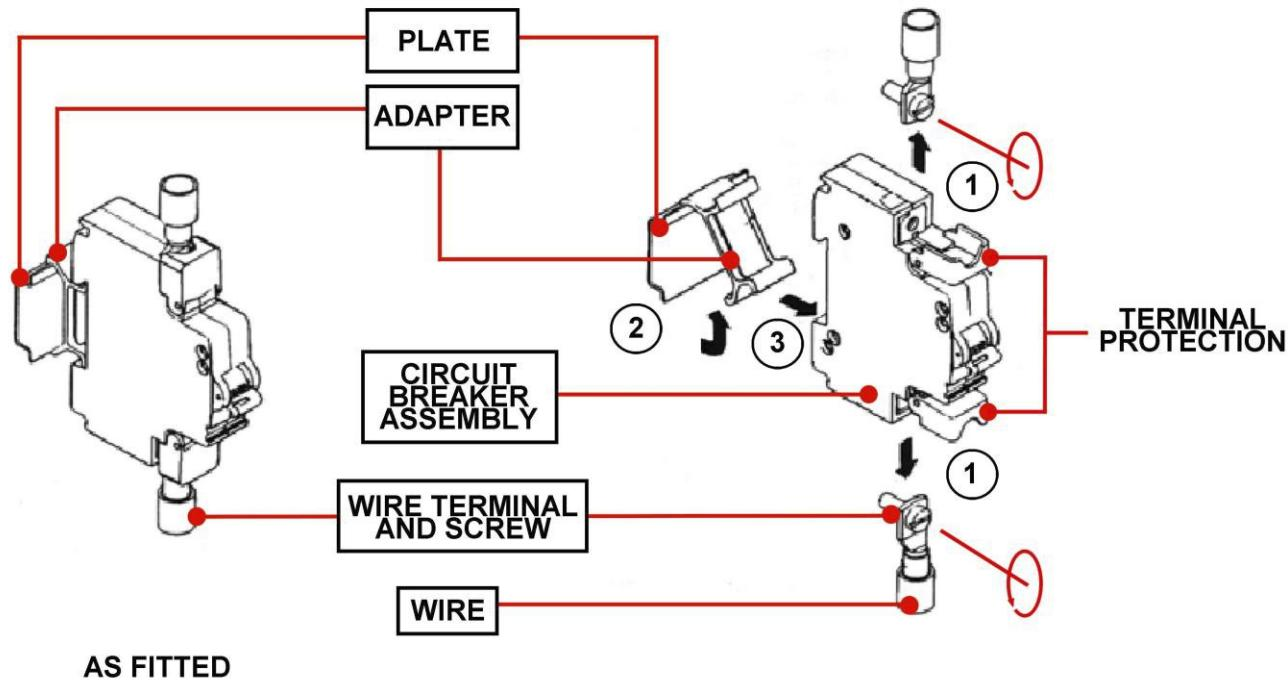

FIGURE 3 -CIRCUIT BREAKER REMOVAL
3. Remove and discard the Circuit Breaker according to the Instructions provided in the following figure 3